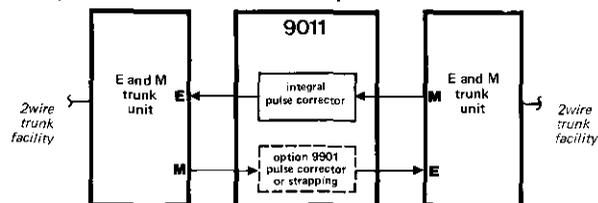

figure 4. Use as Trunk Link Repeater
2.06 In Trunk Link Repeater applications, the 9011 allows back-to-back connection of two E and M signaling circuits characterized by the E and M signaling scheme normally encountered at the back-to-back interface of two trunk circuits. As such, the 9011 provides the bi-directional M-lead input to E-lead output conversion required at this point in the circuit. See figure 4. Two-way pulse correction is normally supplied in this application, but the 9011 may also be used without the 9901 to provide one-way correction, in which case, strapping is required at the 9901 receptacle.